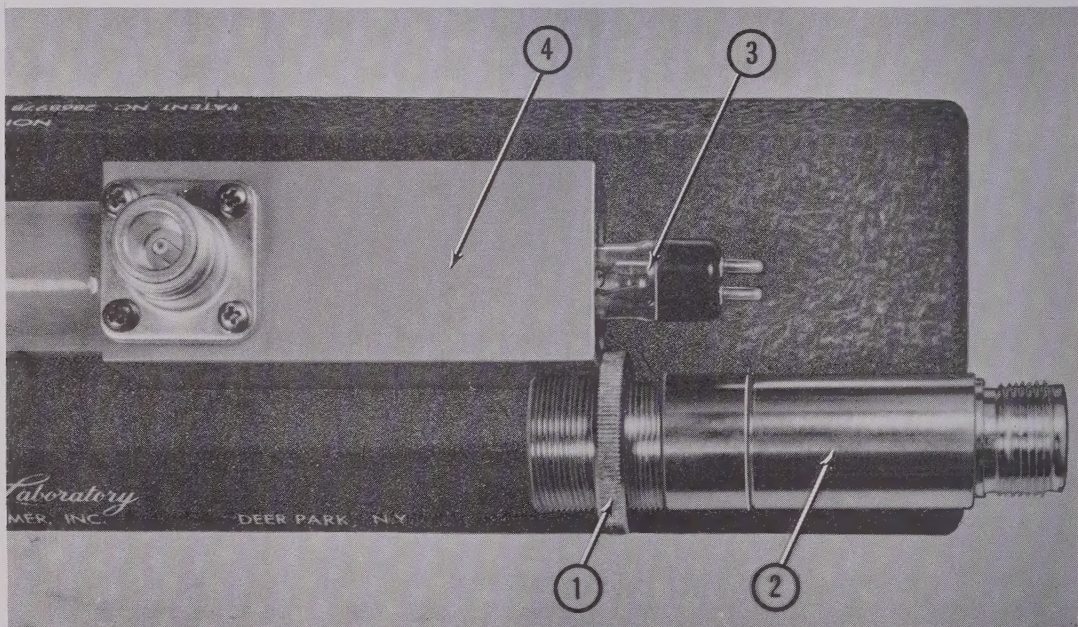

FIGURE 10. LOCK RING PLACEMENT
1. Loosen lock ring (1, Figure 10).
2. Remove cathode connector (2).
3. Remove noise tube (3).
5. Position cathode connector as shown in Figure 10.
7. Insert cathode connector into housing until lock ring is seated against cathode housing (4).